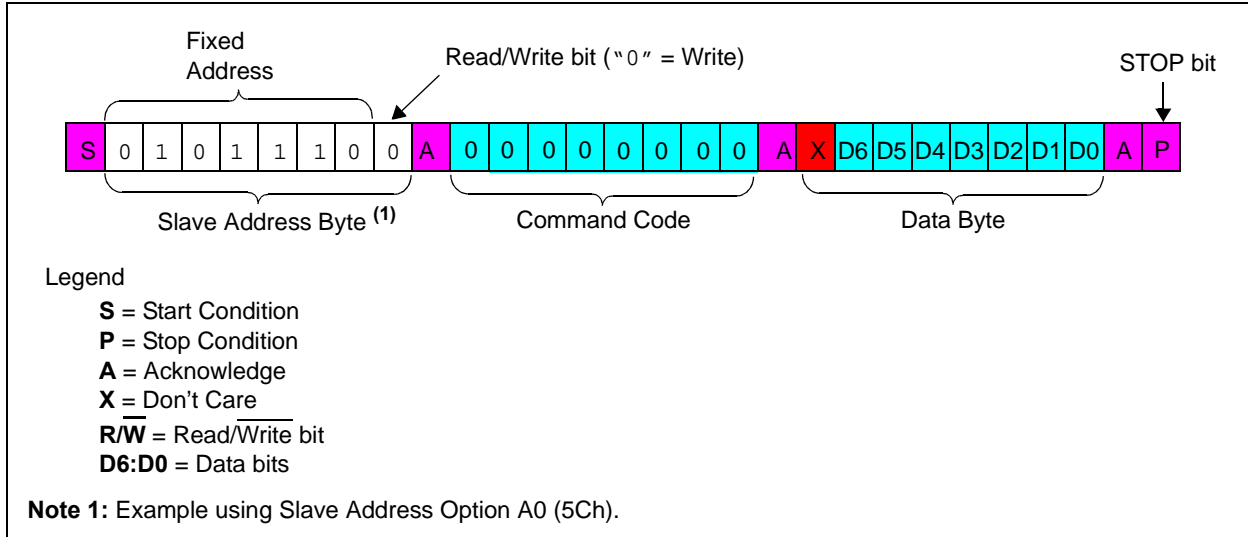
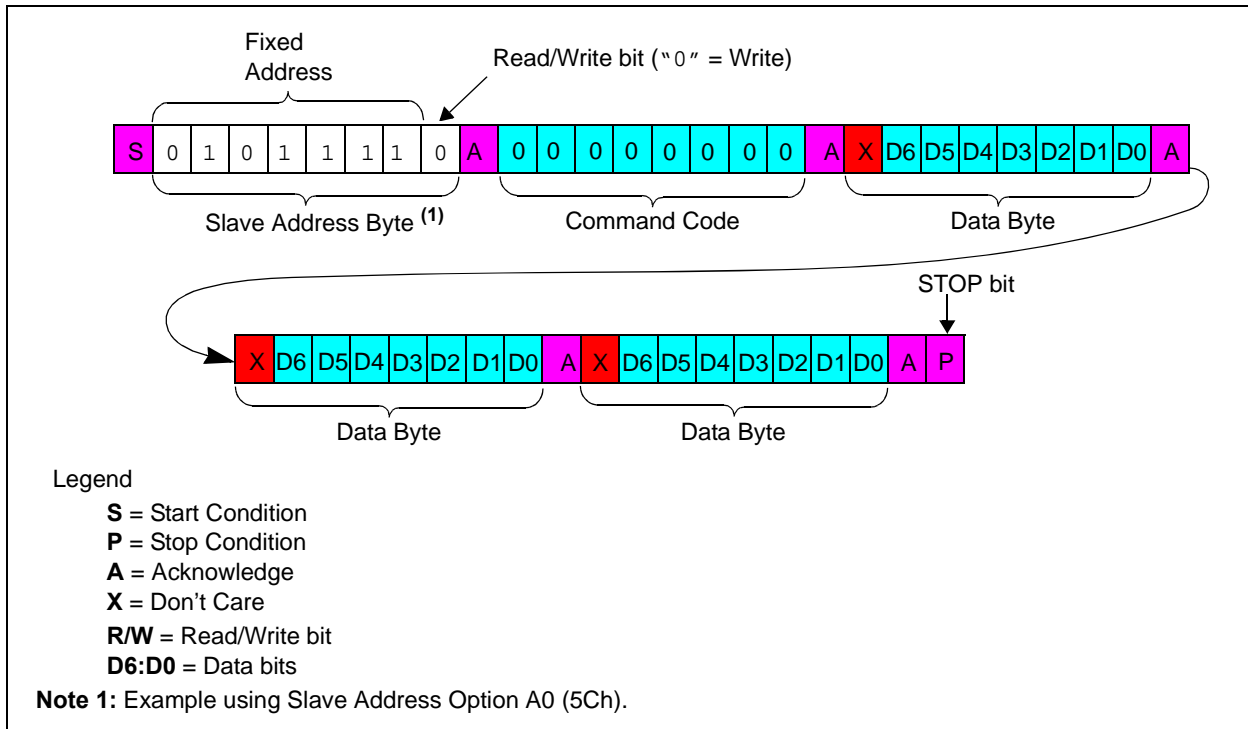

FIGURE 5-11: *I²C Single Byte Write Command Format.*
FIGURE 5-12: *I²C Write Command Format.*
Data bytes may be written after each Acknowledge. The command is terminated once a Stop (P) condition occurs. Refer to Figure 5-11 for the single byte write sequence and Figure 5-12 for the generic (multi-byte) write sequence. For a single byte write, the master sends a STOP or RESTART condition after the 1st data byte is sent.